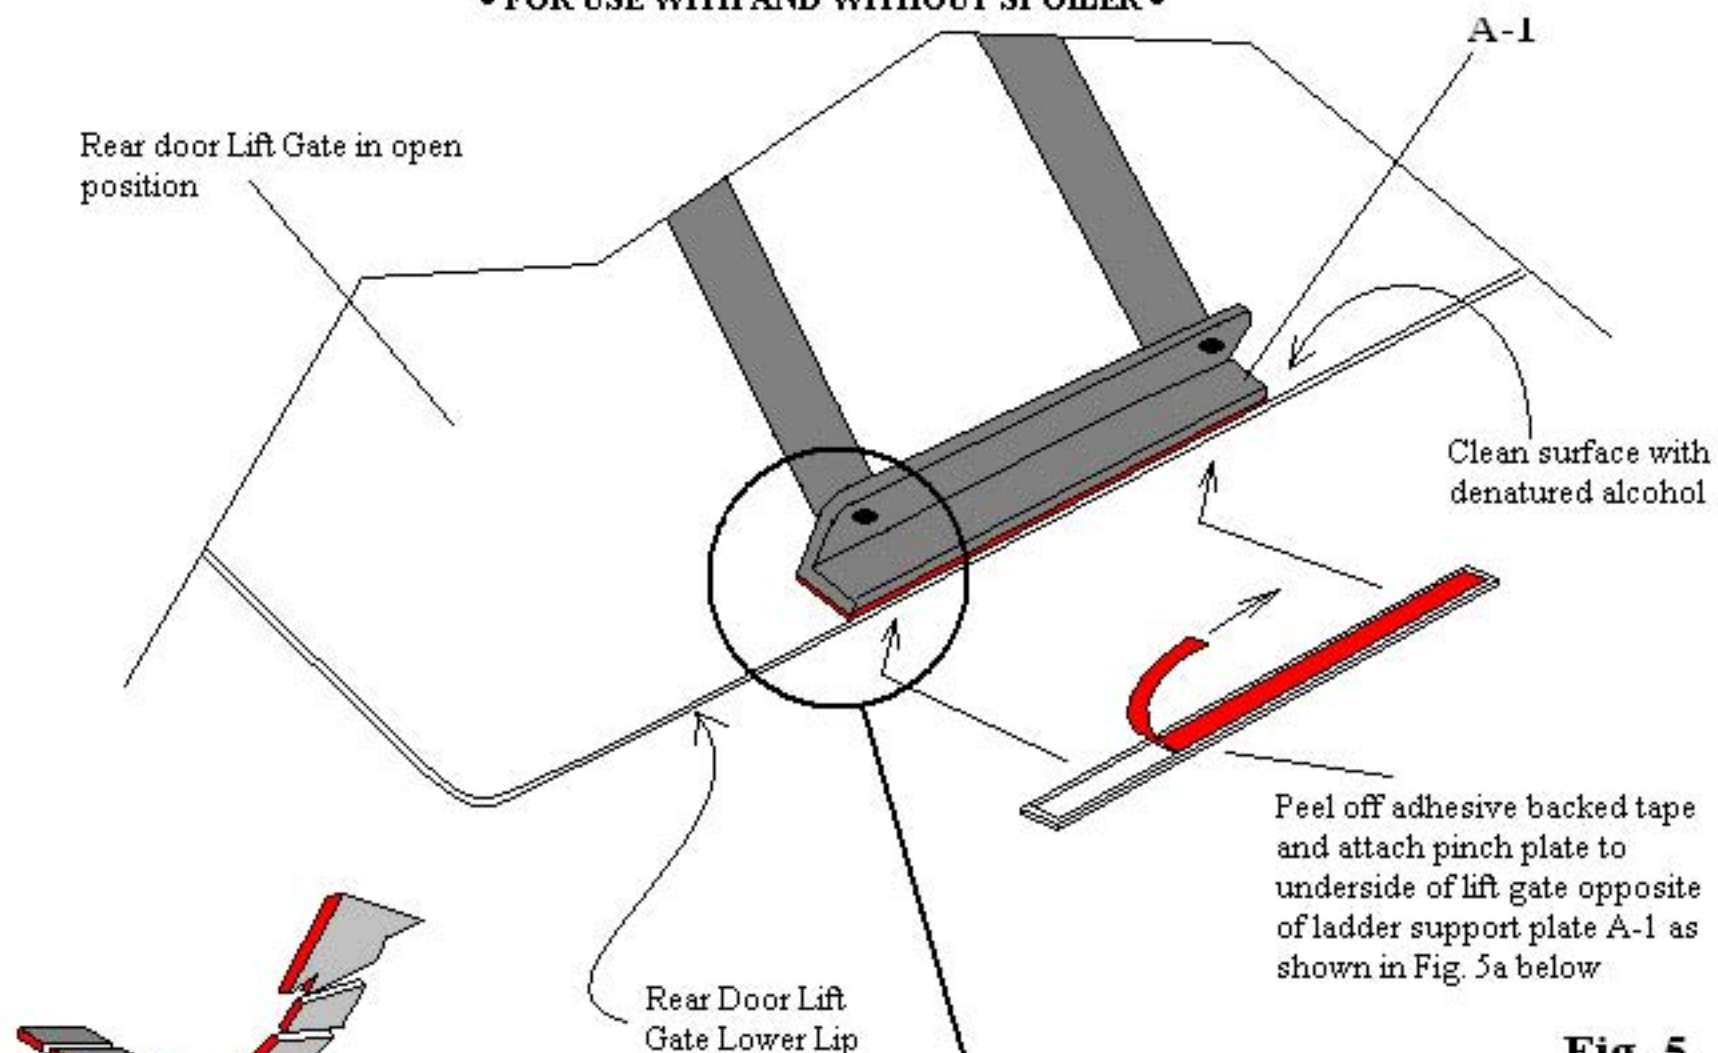

Fig. 5
- 6- Refer to page 7 Fig. 5 and Fig. 5a remove from your hardware kit lower ladder clamp "B". Remove from the lower ladder clamp "B" a (1/2" x 10") aluminum pinch plate with double back tape attached. As shown in Fig. 5 and Fig. 5a clean the area on the outside and inside bottom lower lip of the rear door lift gate where the ladder was previously placed with denatured alcohol then peel off the double back tape from the aluminum pinch plate and attach to the inside door's lower lip as shown in Fig. 5a.